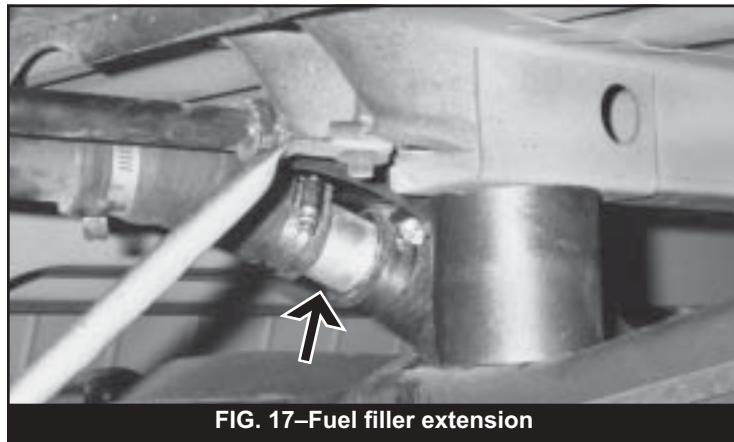

FIG. 17—Fuel filler extension
92. Install the modified filler assembly in the vehicle (Fig. 17). Attach the filler hose to the fuel tank using the stock clamp. Attach the vent hose to the tank using a #10 hose clamp provided. Adjust the length of the extension and tighten all the clamps.